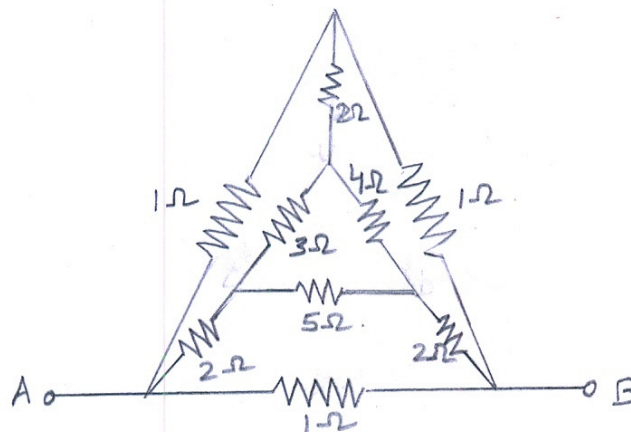

Figure 2(b)
- b) Find the equivalent resistance across the terminals A & B of the network shown in figure 2(b) using Y- Δ transformation. (8M)